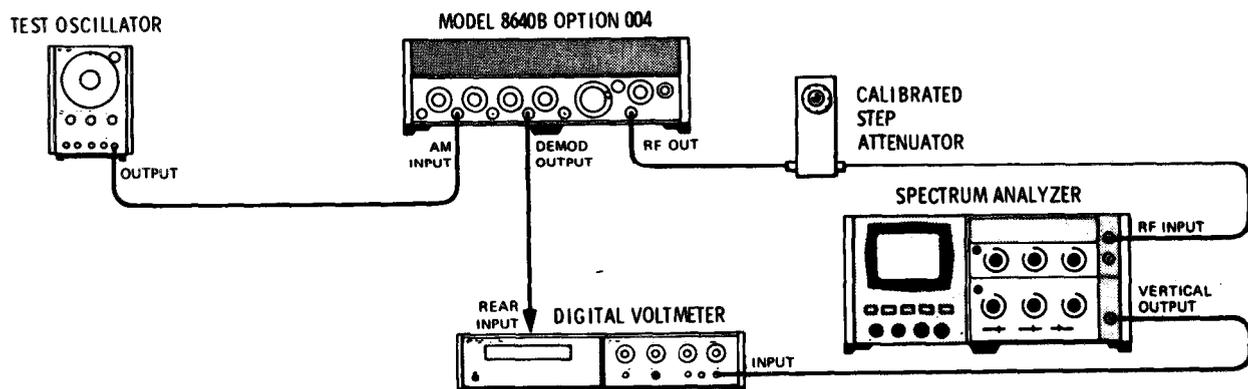

Figure 4-22. Demodulated Output Accuracy Test Setup
1. Connect the equipment as shown in Figure 4-22, after setting the Signal Generator controls as follows: